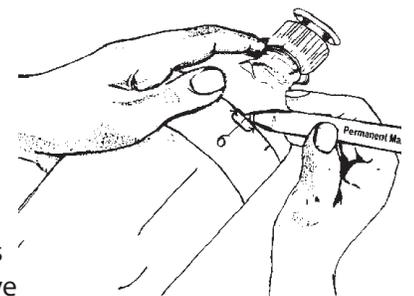

Figure 5
3. Using a permanent marker, indicate placement for each fin by making a dot at the 3", 6", and 9" points (Figure 5). Then, remove the measuring tape.